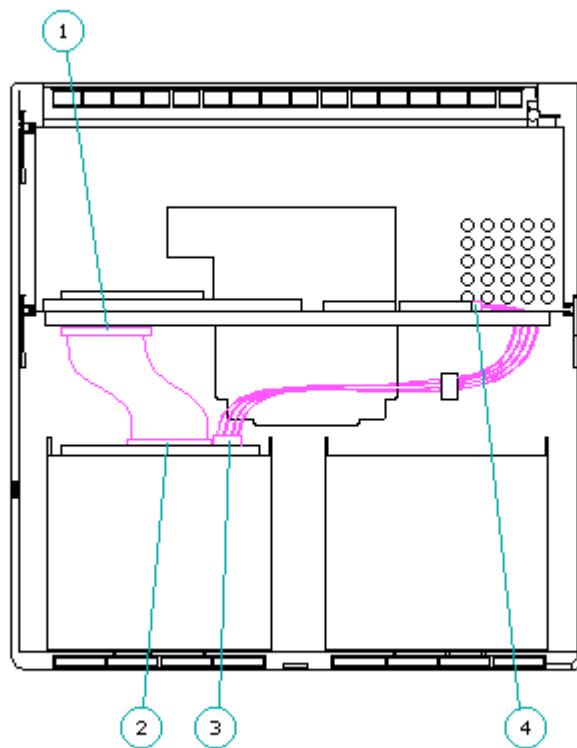

Figure F-2. Connecting SCSI-2 Signal and Power Cables
2. Connect the SCSI-2 signal and power cables (Figure F-2) as follows: